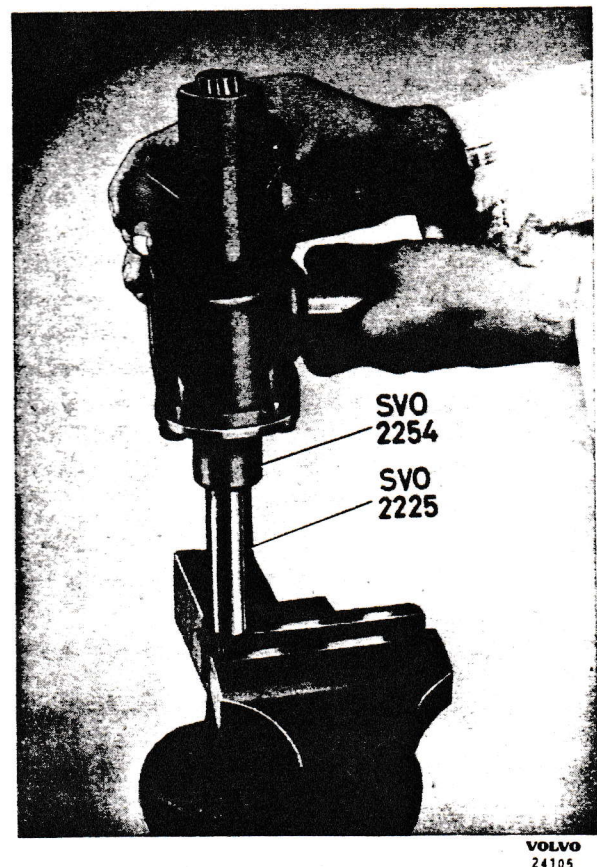

Fig. 32. Reaming bushes
2. Ream the bushes in the housing with reamer SVO 2225. First insert the reamer in the housing after which the guide SVO 2254 is screwed on and reaming can begin, see Fig. 32. After reaming all metal chippings must be removed from the steering box. In the case of light alloy covers, the bush is ready machined.